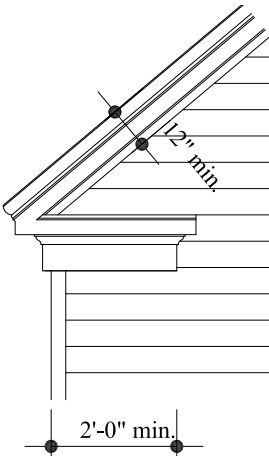

Figure 12b
- » Cornice returns at gable ends shall be a minimum of 2'. See Figure 12b.
- » Rake returns are required at gable ends and shall have 2' minimum return of cornice trim (see also Exterior Walls). See Figure 12b.